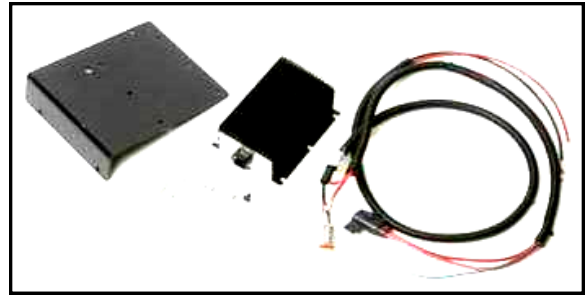

Figure 4.2 (E-Z-GO DC Converter Kit)
Note: It is recommended to use a 48V DC to 12V DC Converter to provide proper voltage and to distribute the load required to run the heater unit fan and lights over all the batteries. The TXT DC Converter Kit (E-Z-GO p/n 605967) is available from E-Z-GO. See fig 4.2.
4.2 Connect the red wire (12V) of the heater unit to the positive 12V terminal on the DC converter in fig. 4.2.